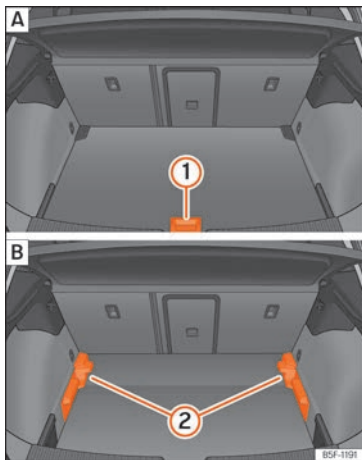

Fig. 130 Variable luggage compartment floor: **A** raised position; **B** lowered position.
- To move from the low position to the high position, lift the floor using the handle »» Fig. 130 **1**, and pull it back until the front of the floor has fully passed the supports »» Fig. 130 **2**.
- To move from the high position to the low position, lift the floor using the handle »» Fig. 130 **1**, and pull it back until the front of the floor has fully passed the supports »» Fig. 130 **2**.
- Lift the variable floor in the high position using handle »» Fig. 130 **1**, pull it up and push it towards the backrest of the rear seats until it folds along the hinge line and the movable part of the floor is resting on itself.